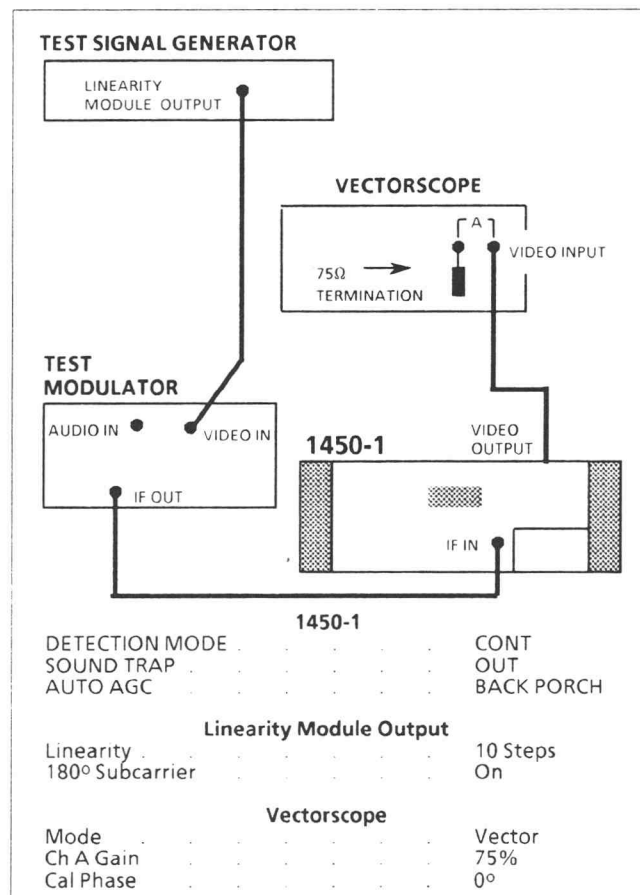

Fig. 4-20. Setup for checking differential phase.
- a. Connect and set the test equipment as shown in Fig. 4-20.